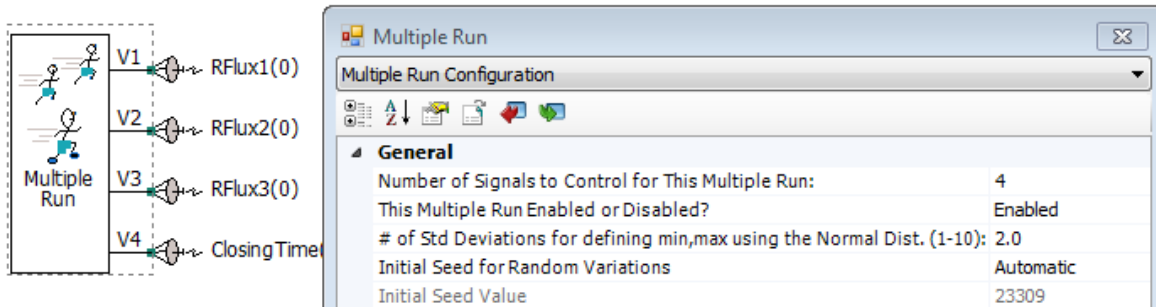

Figure 3: Multiple Run data
- The number of variables to control for this multiple run is 4 and the variable data type is real. The first three variables are remanent Flux (RFlux1 to 3), and the fourth is Closing time. See Figure 3.